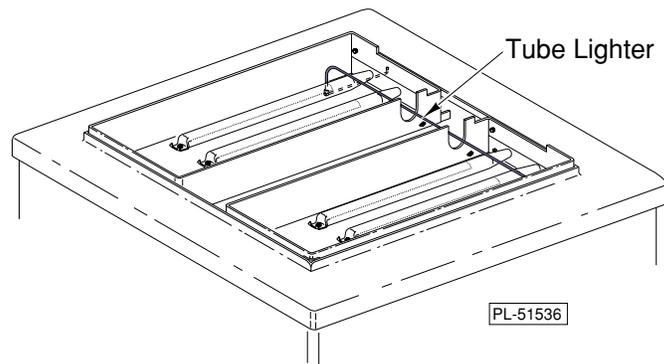

Fig. 3
4. Visually ensure tube lighter ports (Fig. 3) are unobstructed.